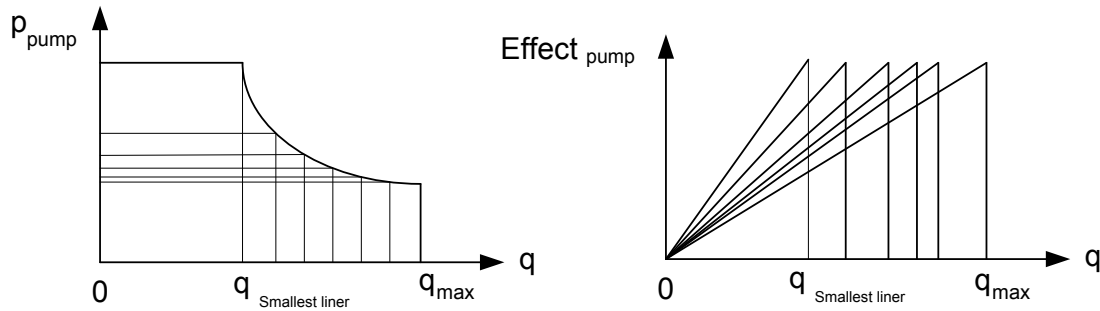

Figure 4-1: Maximum pump pressure for each liner (left) and maximum effect for the same (right)
a) Characteristic diagrams of mud pumps are shown in Figure 4-1:
Power or effect = $E = p \cdot q$, is expressed in Horse Power (HP) or in watt (W). As shown in Figure 4-1 (to the right) the maximum effect is constant for all liners